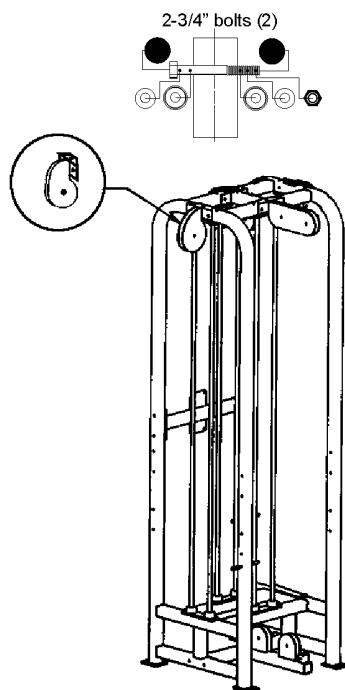

Figure 6. Bolt on the teardrop pulleys.
- 2. Bolt on the teardrop pulleys above the benches** (see Figure 6) on both cubes using two 3/8" x 2-3/4" hex head bolts. Include the 3/8" flat washer, end cap washers, end caps and 3/8" Nyloc (locknut). Use the bolt configuration shown. You may wish to use a pinch bar to align the bolt holes.
Hardware Figure 6. Floating pulleys.